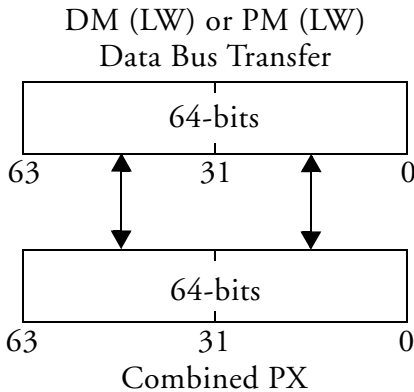

Figure 5-6. PX Register-to-Memory Transfers on PM Data Bus
Figure 5-6 shows the transfer size between PX and internal memory over the PM or DM data bus when using the long word (LW) option.
The LW notation in Figure 5-6 draws attention to an important feature of PX **register-to-internal memory** transfers over the PM or DM data bus for the combined PX register. PX transfers to memory are 48-bit (3-column) transfers on bits 0-31 of the PM or DM data bus, unless forced to be 64-bit (4-column) transfers with the LW (Long Word) mnemonic.